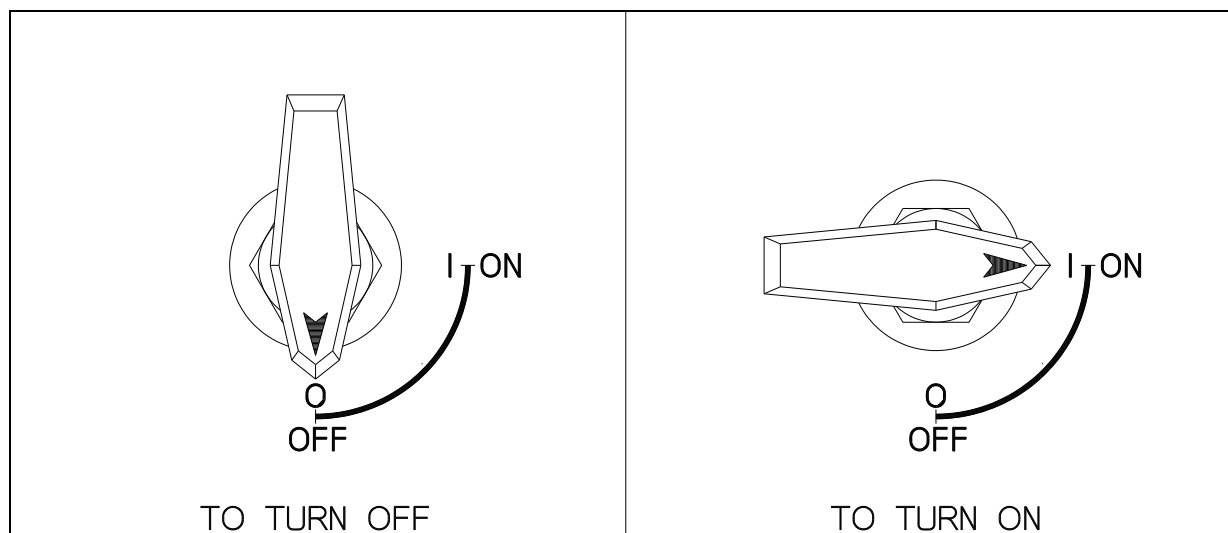

Figure 12. Master On-Off Valve
- Check that the master on-off valve is at the OFF position (Figure 12, Section 4.1).